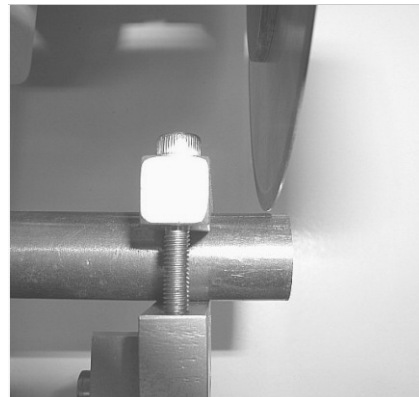

Figure 10 Blade almost touching the specimen
3. Turn the hand crank counter-clockwise to bring the blade forward until it is just behind and almost touching the specimen (see Figure 10).